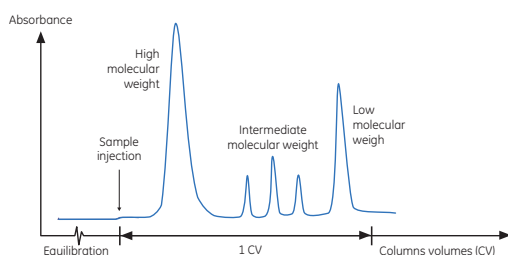

Fig 3. Typical high-resolution SEC separation.
- 2. High-resolution fractionation** of biomolecules where the components of a sample are separated according to differences in their molecular size (Fig 3). High-resolution fractionation can be used to isolate one or more components, to separate monomers from aggregates, or to perform a molecular weight distribution analysis. High-resolution gel filtration is most suitable for samples that originally contain few components or for samples that have been partially purified by other chromatography techniques so that most of the unwanted proteins of similar size are eliminated.